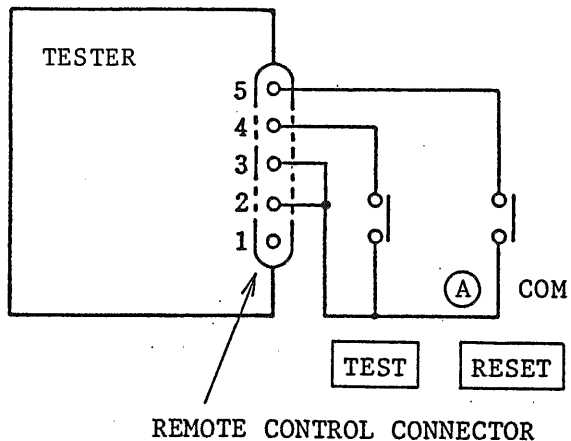

Figure 4.3
- ① Because the instrument can operate by remote control, the pin No.2 and No.3 of connector must be externally connected.
- ② By controlling the TEST and RESET contacts shown in Figure 4.3, the test voltage can be on-off controlled in the same manner as done locally on the instrument front panel.
- ④ Logic elements (transistors, FET's, or photocouplers) may be used instead of the switches in Figure 4.3. The signal status for such operation is shown in Figure 4.5. The input conditions of this instrument for such operation are as follows:
- ⑤ As for the elements to be connected to the Tester, the use of photo-couplers as shown in Figure 4.5 or relays as shown in Figure 4.3 would be advantageous from the viewpoint of preventing erroneous system operations which could be caused by noise. Although the Testers are incorporated with the various provisions to guard it against erroneous operations caused by noise generated by itself or its related devices, it is most recommendable to take full attention to prevent noise when setting up the measuring system.